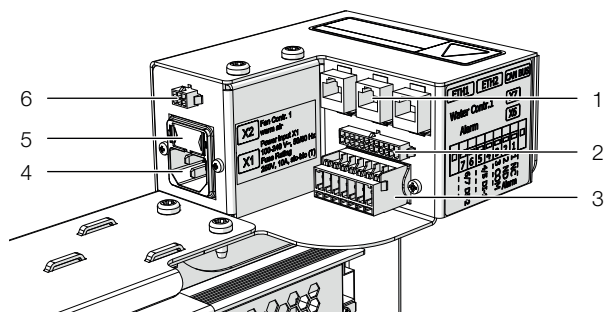

Fig. 49: Connections in the rear upper area
- Connect the connection cable from the water module to the X7 connection in the rear upper area of the LCP Rear Door CW (see fig. 49).